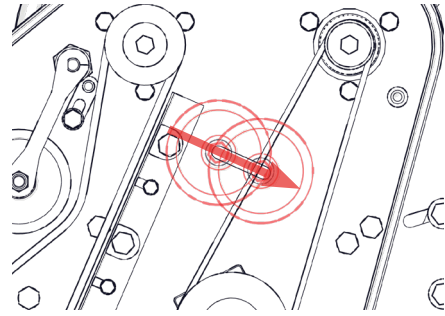

Fig. 13J - Adjust the pulley to add pressure to the belt.
- iii. Adjust the tensioner pulley to add tension to the belt and tighten. Tension is tested by twisting the belt between thumb and forefinger on the longest straight section of belt. Achieve a twist between 70–90° (Fig. 13J). Re-adjust the tensioner pulley if necessary, making more or less contact to achieve this value.